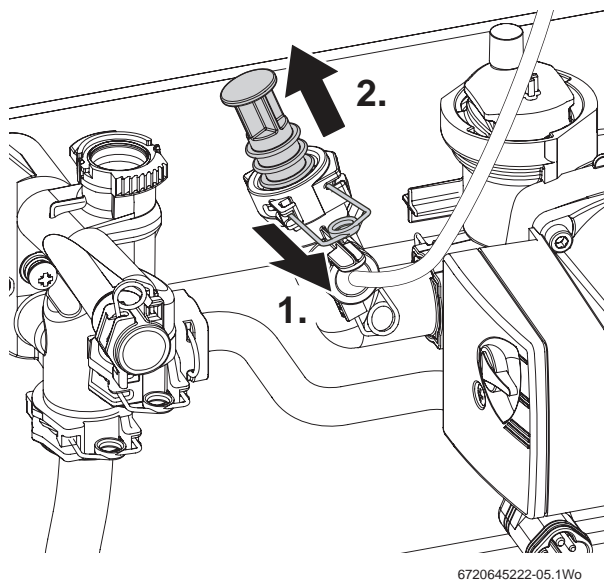

Fig. 34 Blanking plug
1. Refer to figure 34, release the retaining clip.